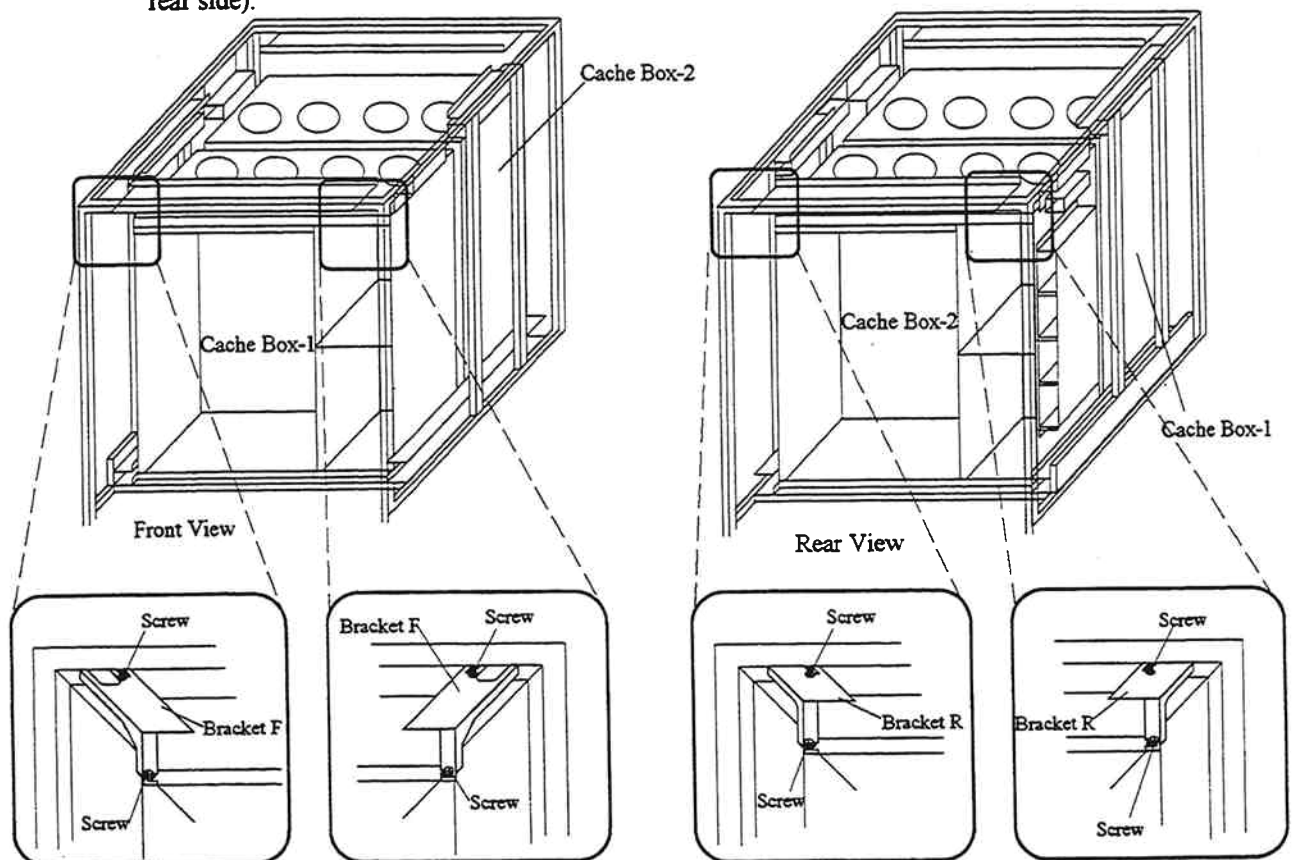

Fig. 3.3.7.7.2-25 Attachment of the Brackets
3. Attach the necessary parts to Cache Box-1 and Cache Box-2. Refer to Fig.3.3.7.7.2-26.
- a. Loosen the screws ①. Attach the FAN Assemblies (x4 for each box) and secure the screws ①.
- b. Loosen the screws ②. Attach the Thermostat Assemblies (x1 for each box) and secure the screws ②.
- c. Loosen the screws ③ and ④. Attach the Battery Assemblies (x2 for each box) and secure the screws ③ and ④.
- d. Check that the PS Enable/Disable Switch on the 3.3V and 5V power supplies is set to (Down) Disable. Loosen the screws ⑤ and ⑥. Attach the 3.3V and 5V power supplies (x1 for each box) and secure the screws ⑤ and ⑥.
- e. When the Cache redundant power supply (DKC-F210I-72) is not installed, loosen the screws ⑦ and ⑧. Attach the Dummy Plates (x2 for each box) and secure the screws ⑦ and ⑧.